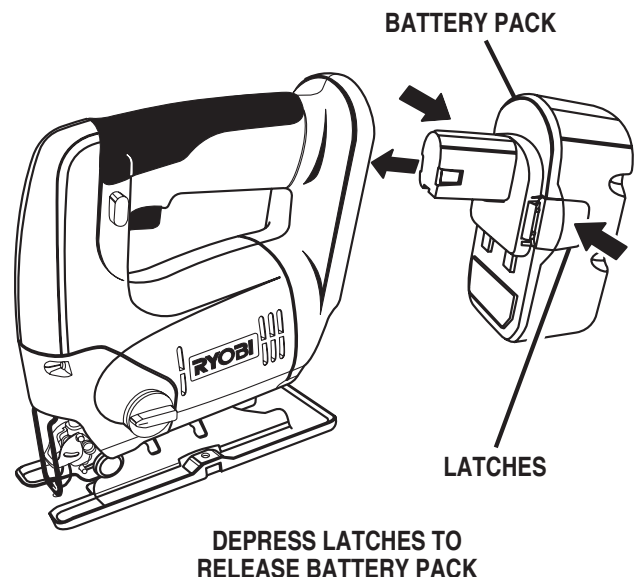

Fig. 6
- Remove battery pack. See Figure 6.
See Figure 6.